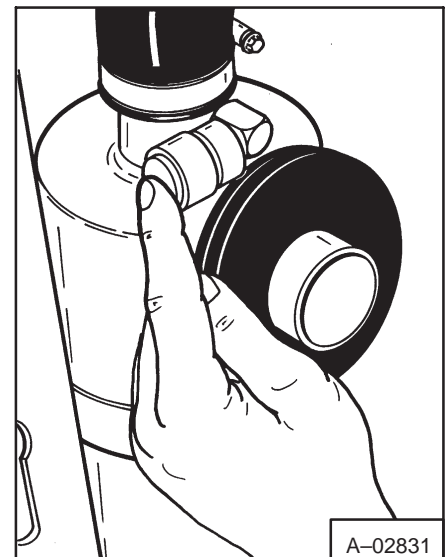

Fig. 1-9 Condition Indicator (540)
3. Make replacement of the element only when the red ring shows in condition indicator window (Fig. 1-9).